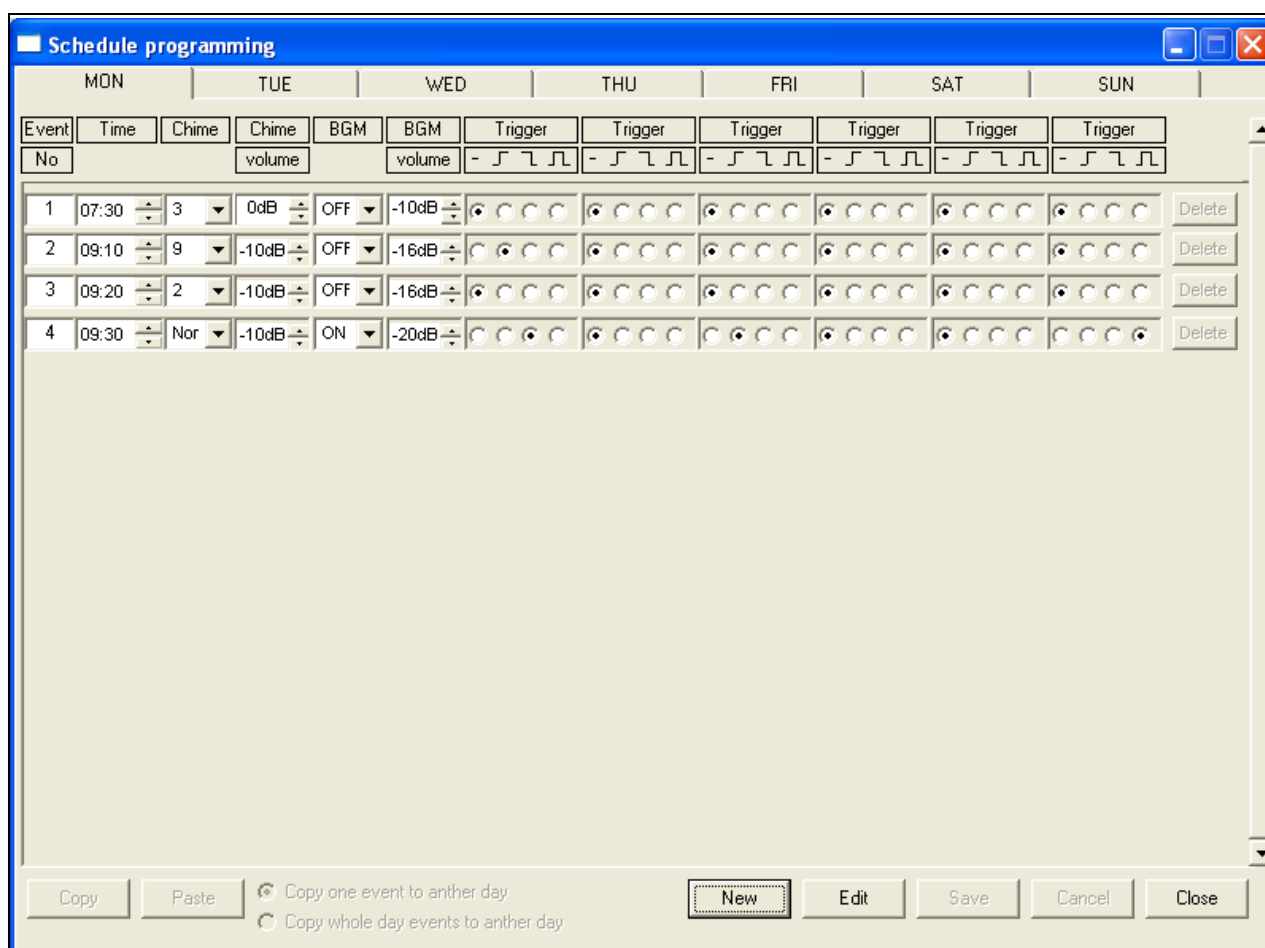

figure 8.14: Schedule programming window
- assigned individual properties, such as the time the event takes place, and the type of chime or trigger required (see figure 8.14).
- 2 Select the configuration file that you want to open, and then click Open. The configuration will be loaded, and displayed on the Schedule programming window (see figure 8.14).